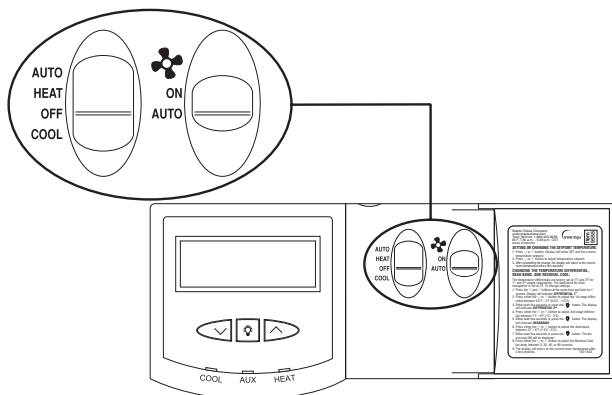

Figure 2
2. Place AUTO-HEAT-OFF-COOL in OFF position (Figure 2).
3. Place ❁-ON-AUTO switch into AUTO position (Figure 2).